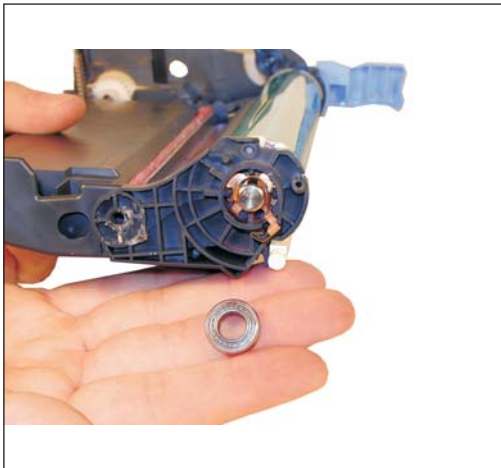

Figure 49
26) When the axle shaft was installed, the bearing on the opposite side will have come loose. If it has not completely fallen off, remove it now. Clean the contacts behind the bushing with alcohol. Re-install the bushing. See Figures 49 & 50